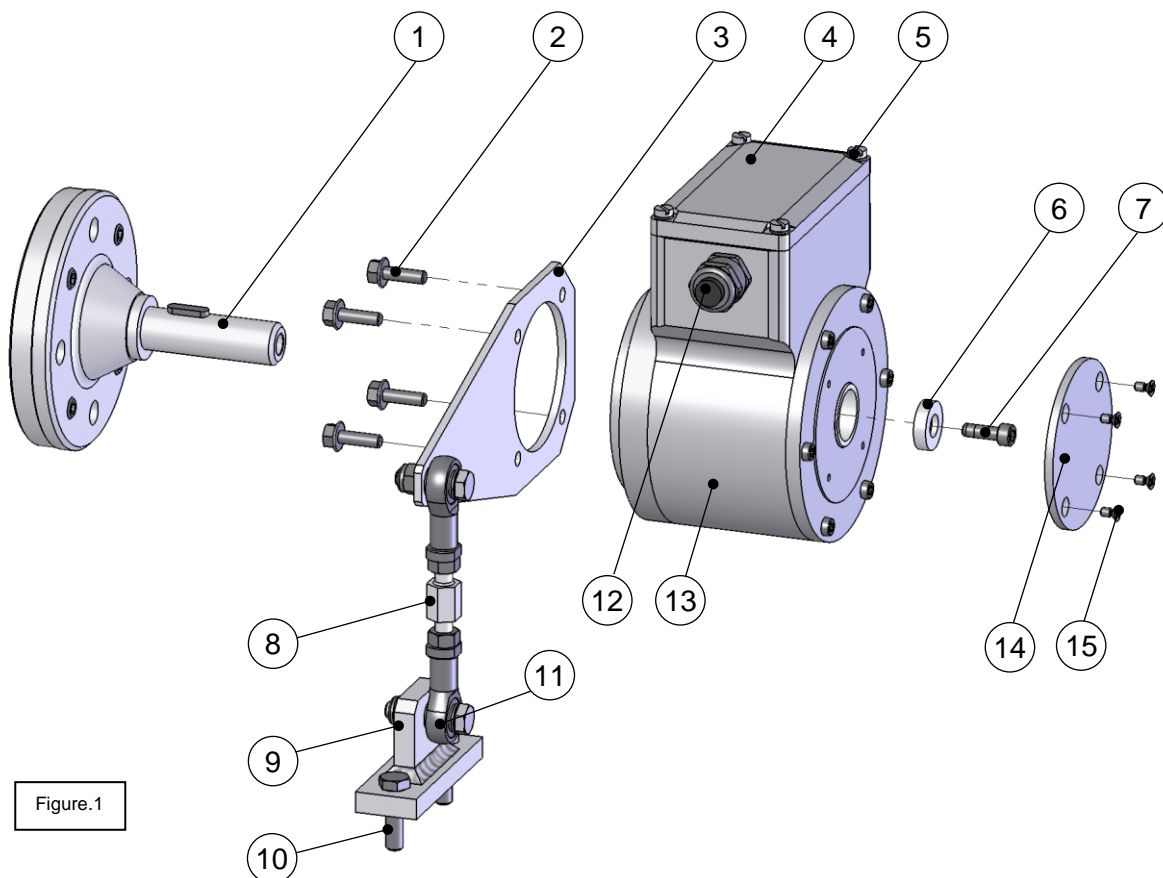

Figure.1
2. Remove the cap of the cable gland (12, Fig.1).